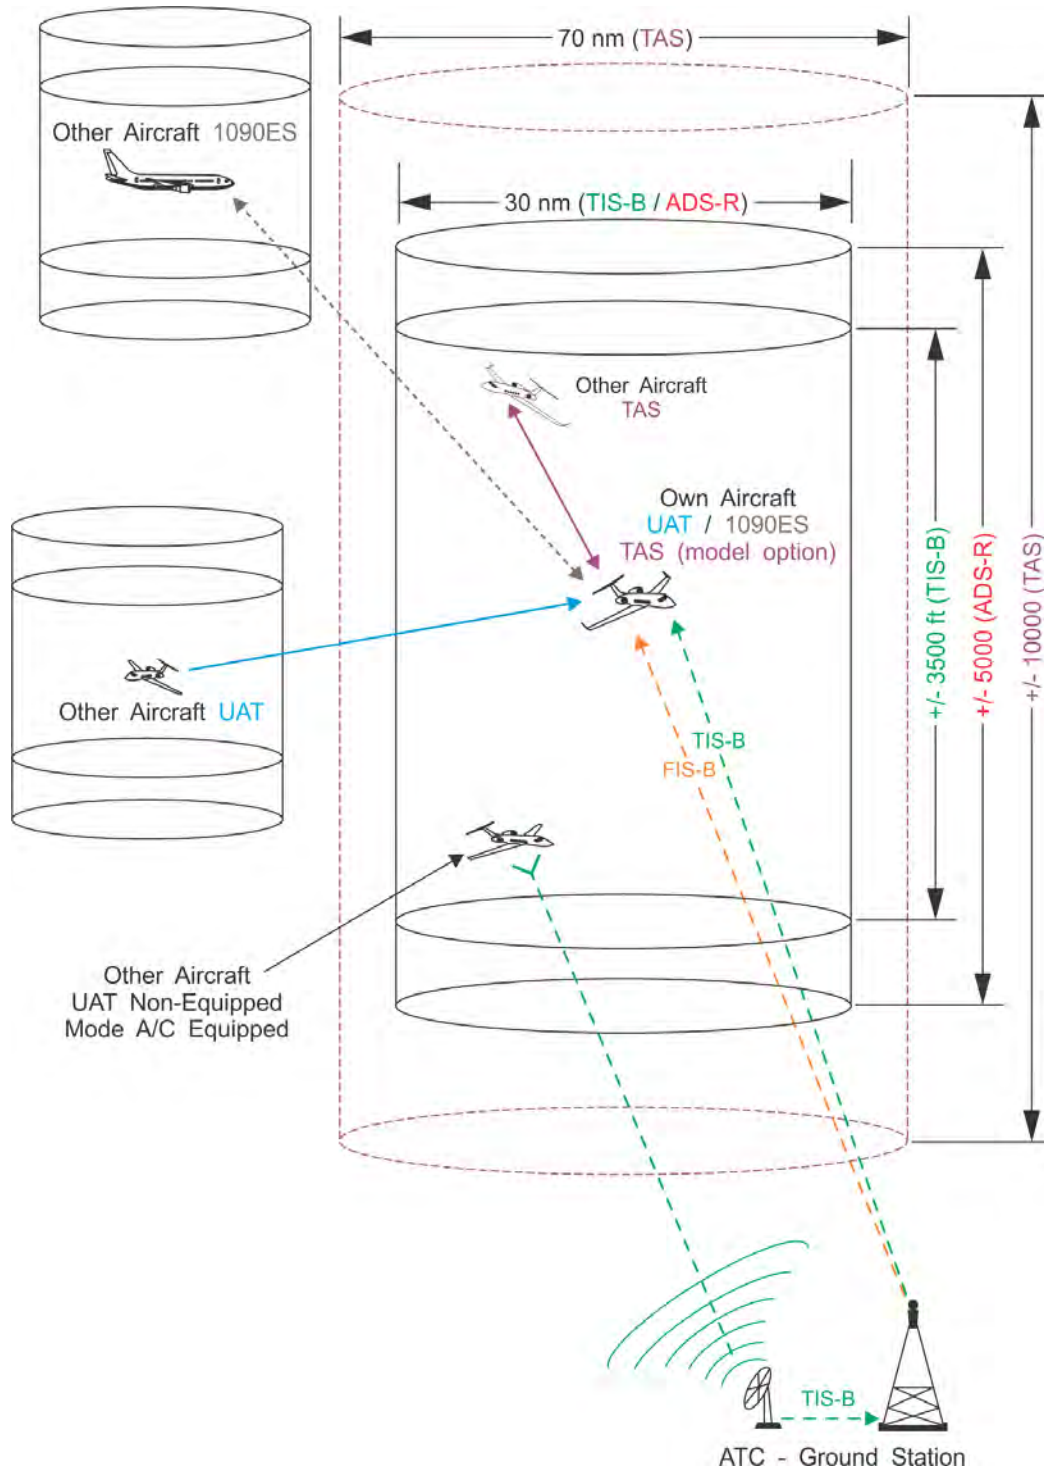

Figure 1-2: Example of Own Aircraft UAT, 1090ES, and TAS Traffic
- The effective surveillance range is 60 nmi. The passive-mode surveillance range is 160 nmi and maintains report messages for a minimum of 200 1090ES ADS-B participants and 300 UAT ADS-B participants simultaneously. To reduce display clutter a set number of other aircraft of the highest priority other aircraft are displayed at a time. See Figure 1-2 for an example of own aircraft traffic (UAT, 1090ES, TIS-B, and TAS).
- Other aircraft are provided by the ground station if within a 15 nm horizontal range and +/-5,000 ft of altitude of the receiving aircraft. ADS-B equipped ground aircraft and vehicles are not displayed to airborne aircraft. See Figure 1-2 for an example of own aircraft traffic (UAT, 1090ES, TIS-B, and TAS).
- Other aircraft are provided by the ground station if within a 15nm horizontal range and +/-3,500 ft of altitude of the receiving aircraft. ADS-B equipped ground aircraft and vehicles are not displayed to airborne aircraft. See Figure 1-2 for an example of own aircraft traffic (UAT, 1090ES, TIS-B, and TAS).
The TAS option is an active system that operates as an aircraft-to-aircraft interrogation device. The unit interrogates transponders in the surrounding airspace similar to ground based radar. When replies to these active interrogations are received, the responding aircraft's range, altitude, and closure rates are computed to plot traffic location and predict collision threats. The unit alerts the flight crew to nearby transponder equipped aircraft and assists the pilot in the visual acquisition of aircraft that may represent a danger. Traffic information, out to a selected range, is graphically displayed on the unit or alternate display. See Figure 1-2 for an example of own aircraft traffic (UAT, 1090ES, TIS-B, and TAS).